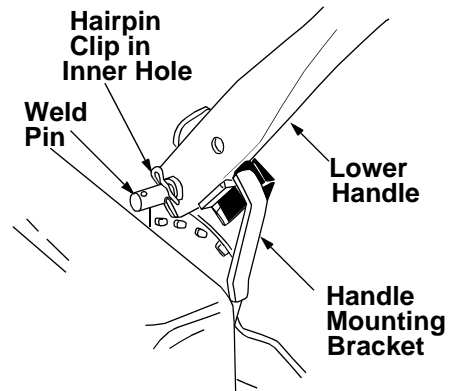

Figure 2
- Using a pair of pliers, squeeze one leg of the lower handle against the handle mounting bracket. Insert the hairpin clip into the inner hole on the weld pin. See Figure 2. Repeat on other side.